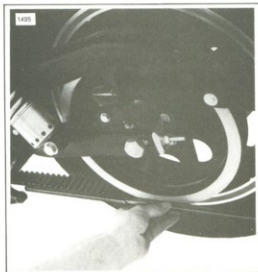

Figure 6-20. Secondary Belt Alignment
2. See Figure 6-20. On 1983 and earlier vehicles lay a straightedge across the side of the rear wheel sprocket near the bottom. The distance between the edge of the belt and the straightedge must be equal along the full length of the straightedge. Turn the adjuster accordingly to correct any misalignment.